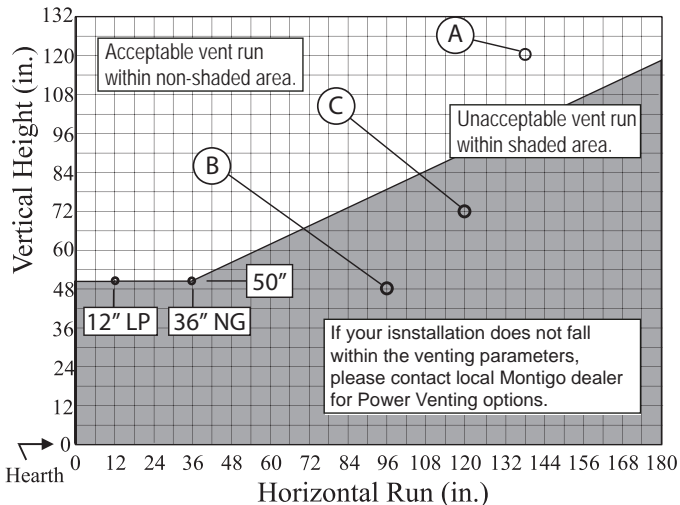

Figure 11. HL42DF*-ST Top Vent Venting Graph for wall mounted terminations.
- Once the proposed venting layout has been determined refer to Figure 11 or 12 to ensure the layout is acceptable.
- Venting runs must fall within the limits set by the venting graph, see Figure 11.
Measure the vertical height from the fireplace hearth to the centre of the termination and the horizontal run from the fireplace flue collar to the wall flange of the termination. Plot on the Venting Graph Figure 11 with an 'X'.
Figure 11a. Top Vented, wall mounted installation with one 90° bend. The vent run must comply with Venting Graph for Top vent, wall mounted terminations, Figure 11.